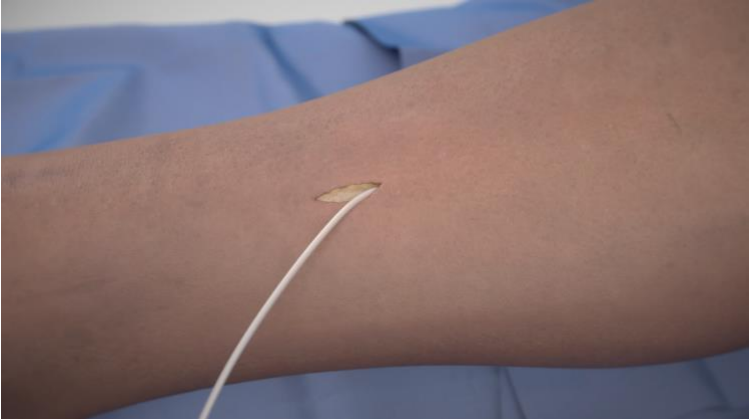

Figure 1
1. Secure the connection of the electrode array to the receiver by tying a knot after the receiver marker band. (Figure 1) The knot must be proximal to the marker bands.